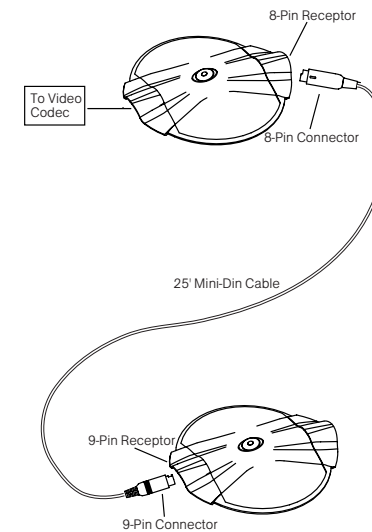

Figure 5. Connecting a second VTC AccuMic
2. Connect one end of a 10' (3 meter) mini-DIN VTC AccuMic cable (part 830-000-041) to the 8-pin connector on the first VTC AccuMic (see Figure 5).